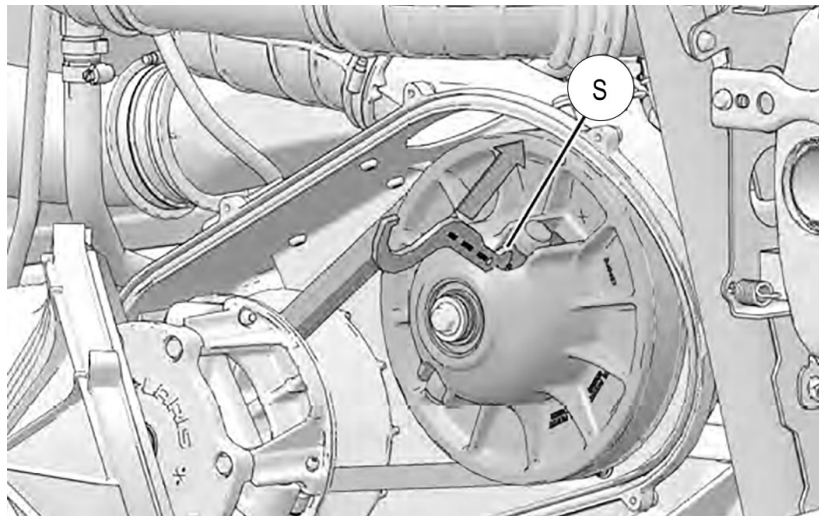

Figure 8
8. Walk the belt out of the driven clutch and drive clutch. Remove the belt from the vehicle. Figure 8.